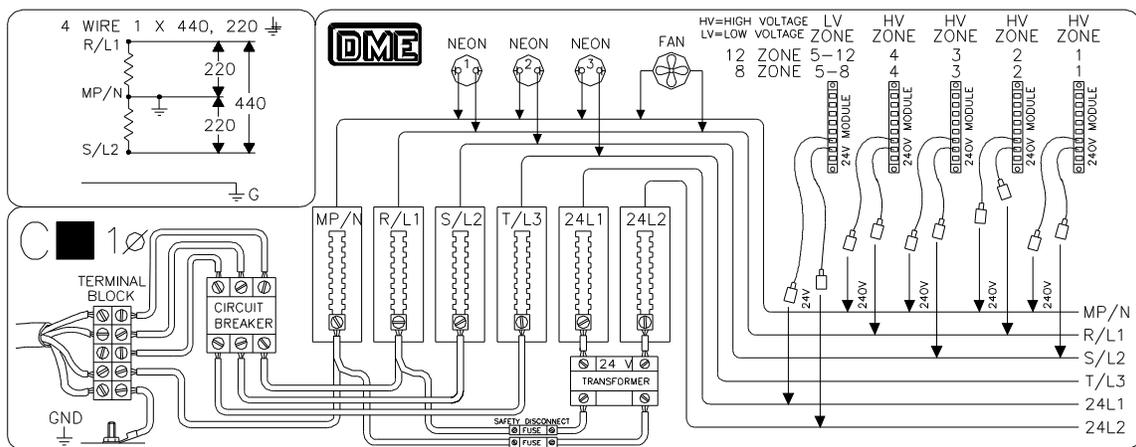

Figure 14 - Back Panel Wiring, Diagram C
- c) For 240 VAC, single phase, refer to figure 14.